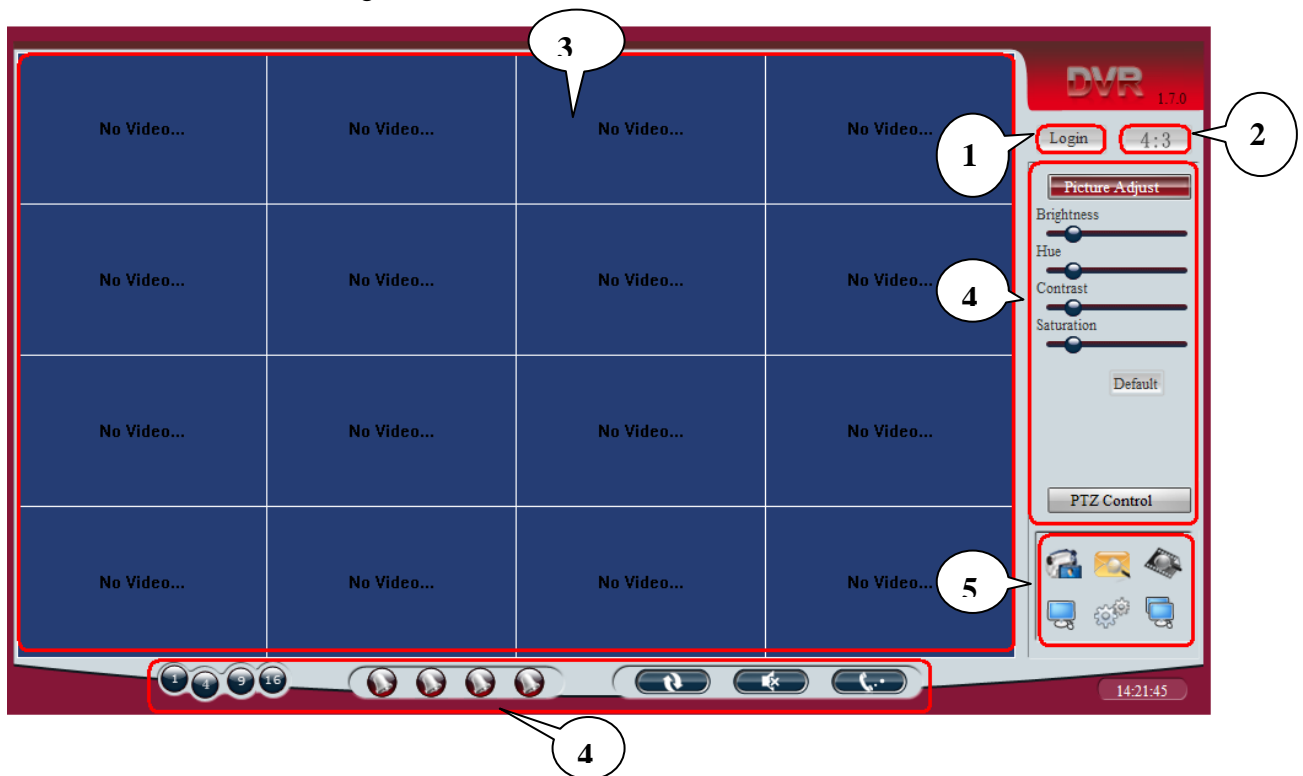

Fig. 69
The main interface shown as Fig.69:
1. Click login button at higher right corner on the main interface(Fig69①marks), or right click the video display area anywhere, or click the menu and setup, the system will pop-up the login interface.
Click the image view scale button ,on right-top of the main interface(fig.69,mark②),can switch the scale at 4:3 and 16:9.
In the main interface shown as Fig69 ③ is the video display area.
5. Cruise control: in fig69 “” icon shows the area of cruise control, cruise including auto cruise and route cruise.
In the main interface shown as Fig 69④, is the shortcut operation area.
The mark④ at right on the main interface, is image adjust area. The detail operation please see the above video area operation fig.69 image adjust instruction.